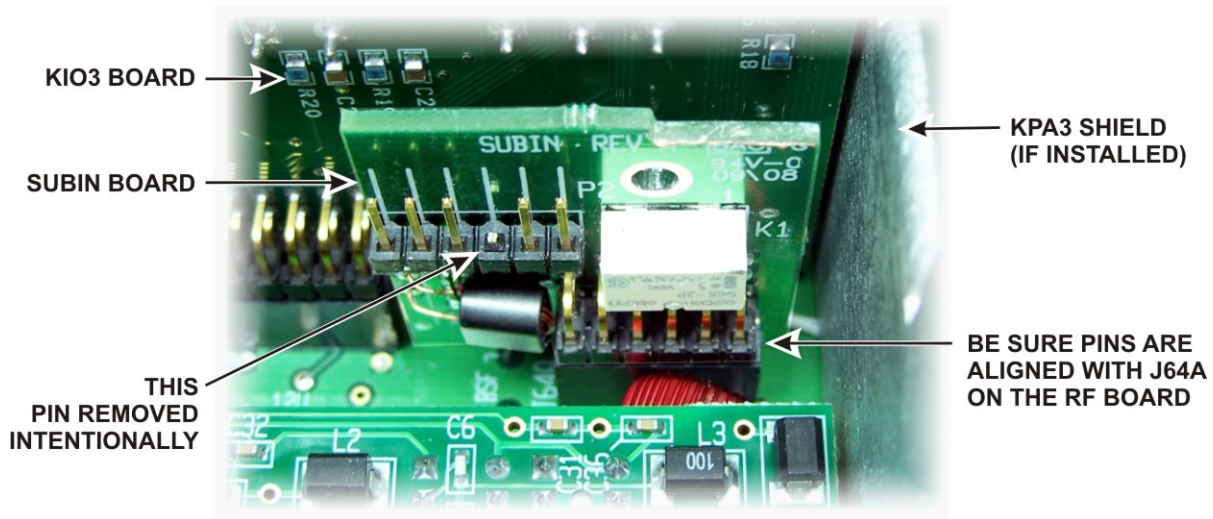

Figure 46. Mounting the SUBIN Interface Board.
□ Plug the SUBIN interface board into J64A on the K3 RF board as shown in Figure 46. J64A is directly in front of the KIO3 board in the rear left corner of the K3. Be certain the connector on the SUBIN board is aligned with J64A so all pins are engaged.